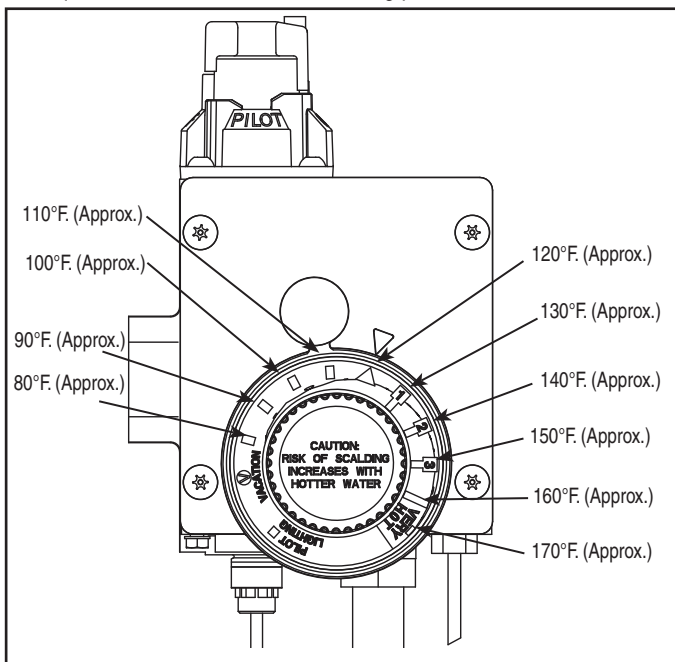

Figure 3 — Thermostatic Gas Valve.
**2. WATER TEMPERATURE SETTING**— The temperature of the water in the heater can be regulated by setting the temperature dial on front of the thermostat. (Refer to Fig. 3) To comply with safety regulations the thermostat was set at its lowest setting before water heater was shipped from the factory. A setting of 120°F., or lower if local codes require, is recommended as a starting point.